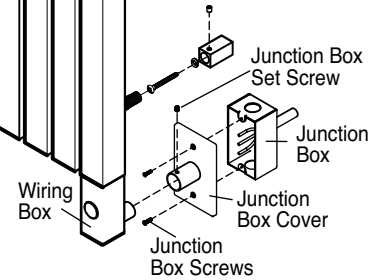

Figure 2: Secure bracket to finished wall
5. Using the large screw provided secure the bracket to the wall with an electric drill (see figure 2).
7. Thread the (4) inserts into Towel Warmer.